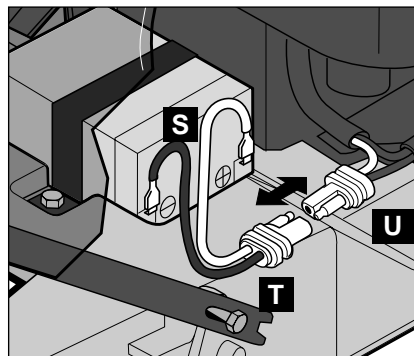

Figure 2-4
- A. Connect wire lead (T, Fig. 2-4) from the battery (S) to the connector (U) on the main wire harness. Align connectors so wire colors are in line. Press both plastic connectors together securely.